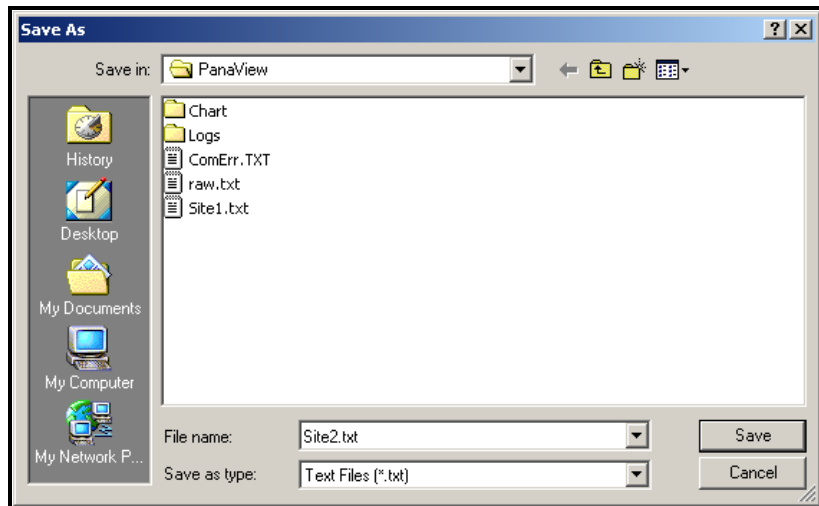

Figure C-13: Save As Window
Saving Transducer Signals To *save* the raw signal, click Save. A window opens similar to Figure C-13 below. Enter the desired name, and click Save to save the signal as a text file.
2. Click Save Site to PC. A window opens similar to Figure C-13 on page C-11.